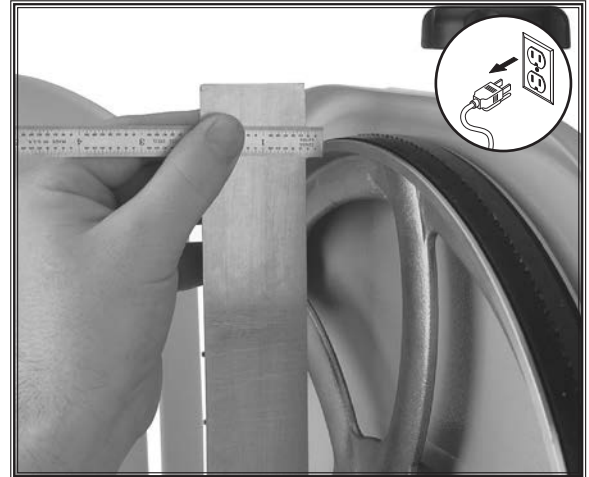

Figure 102. Example of measuring the distance to shim the wheel to be coplanar.
3. With coplanarity gauge touching both rims of wheel that does not need to be shimmed out, measure distance away from other wheel with a fine ruler (see **Figure 102**). The distance measured with ruler is distance this wheel must be shimmed.